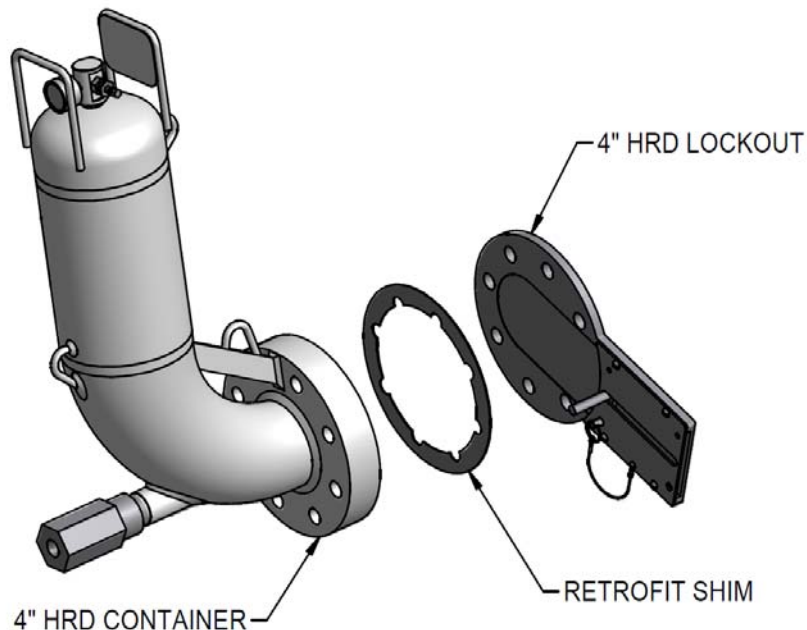

FIGURE 4 – RETROFIT SHIM INSTALLATION
- **Stud Quantity:** The 4" HRD Lockout requires (7) studs. The 6" HRD Lockout requires (10) studs. The missing stud(s) provide clearance for the gate.
- **Retrofit Shim (P/N E70-0230):** The 4" HRD containers (2.5, 5, 10, 20 & 30L) manufactured prior to January 2010 require the retrofit shim to prevent the gate from binding. The retrofit shim is installed between the HRD container and HRD lockout (reference Figure 4).